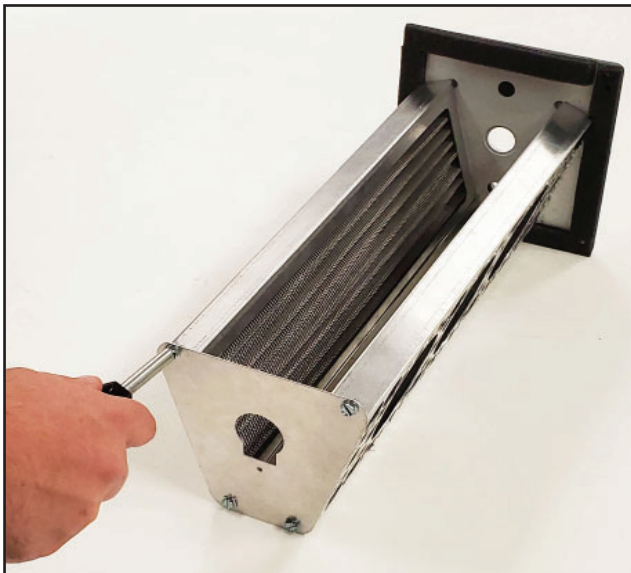

FIGURE 7
5. Unscrew the end bracket by removing the hex screws, See Figure 7. Save the hex screws for reattaching the end bracket. The end bracket is located on the opposite side of the Model than the power source.